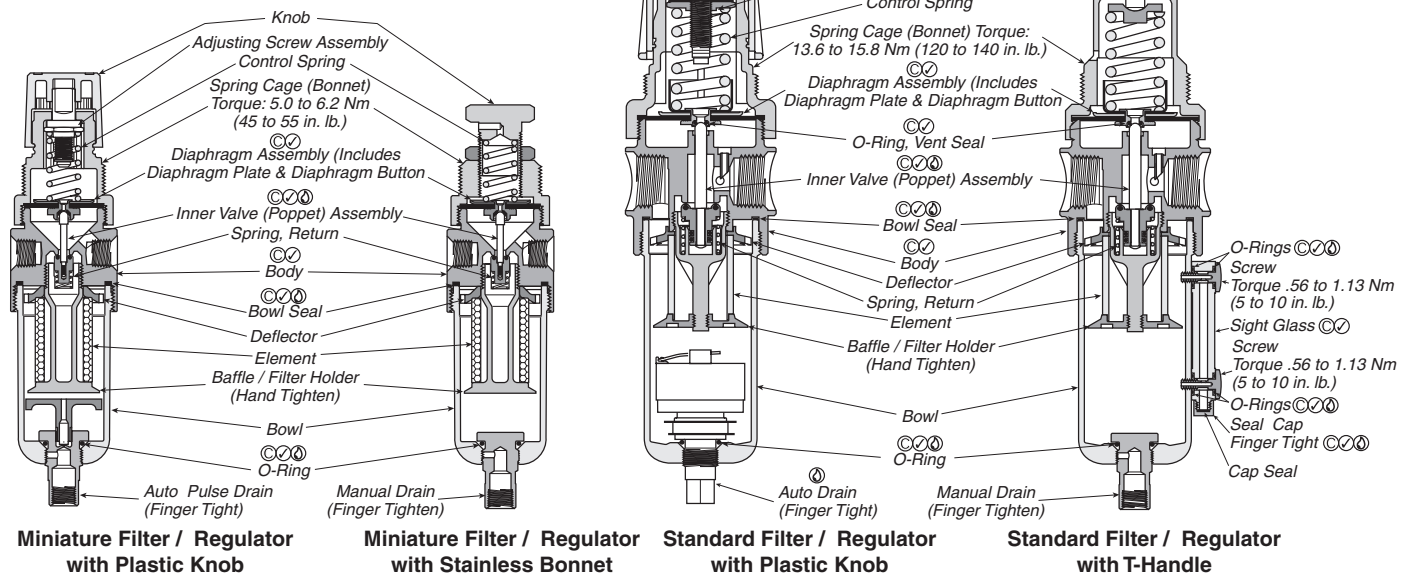

Figure 1
Servicing Filter Element - (Refer to Figure 1)
Servicing Regulator - (Refer to Figure 1)
- Install diaphragm assembly into body assembly. Assemble bonnet assembly onto body and tighten per Figure 1.